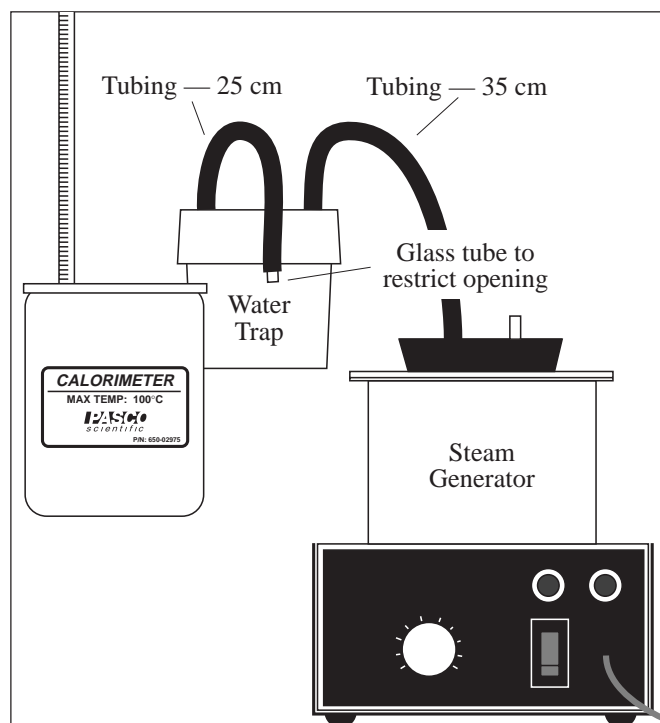

Figure 3.1 Equipment Setup
- ① Measure T_{rm} , the room temperature.
- ② Set up a steam generator with a water trap as shown in Figure 3.1. The tube lengths should be approximately as shown in the figure.
- ③ Weigh a calorimeter to determine M_{cal} , the mass of the empty, dry calorimeter.
- ④ Fill the calorimeter approximately 1/2 full of cool water (about 10°C below room temperature).
- ⑤ Turn on the steam generator and wait for the steam to flow freely for at least a minute.
- ⑥ Measure T_{initial} and $M_{\text{cal} + \text{H}_2\text{O}}$, the temperature of the cool water and the mass of the water plus calorimeter.
- ⑦ Immediately immerse the free end of the short tube into the cool water in the calorimeter. Stir the water continuously with the thermometer.